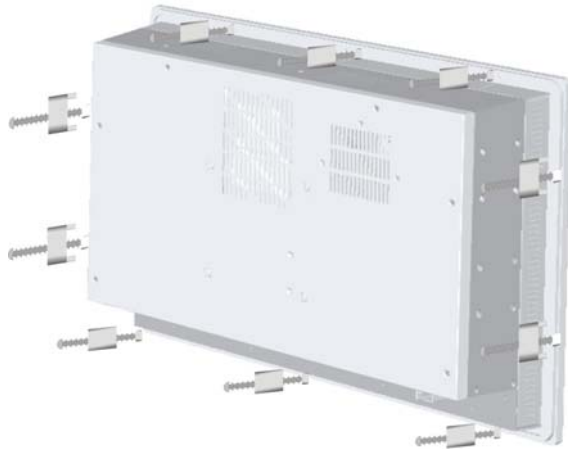

Figure 4-21: Panel Mounting Clamp Positions
- Step 4:** Insert the panel mounting clamps into the pre-formed holes along the edges of the PPC-5xxx-9455, behind the metal frame (**Figure 4-21**). Refer to the mounting kit packing list for the required number of mounting clamps.